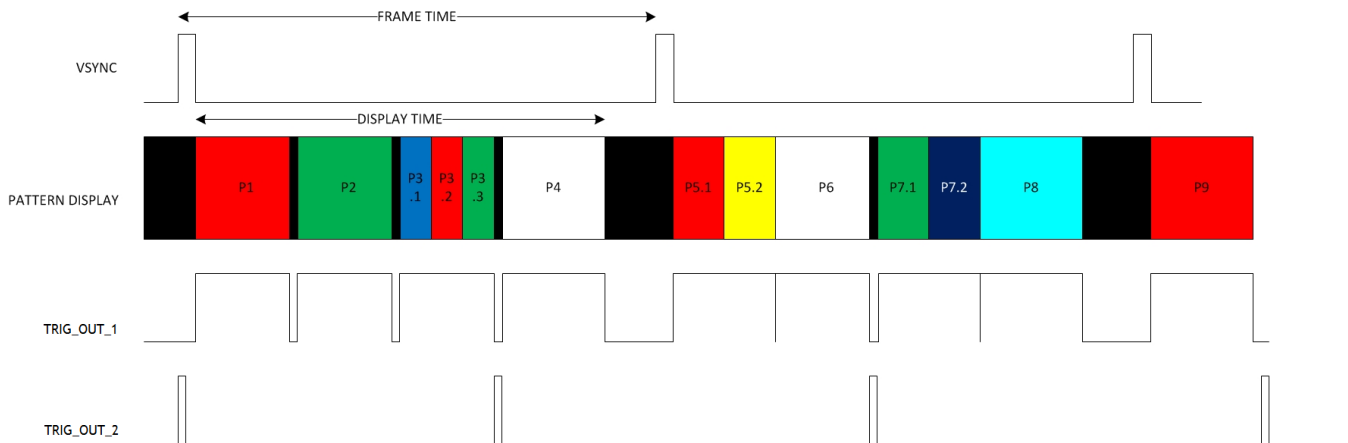
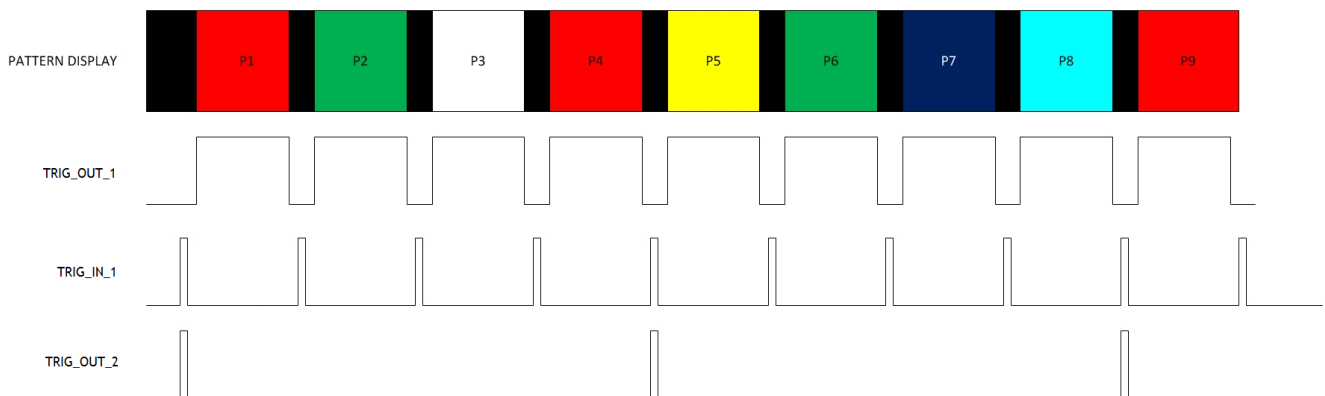

Figure 3-10. VSYNC Pattern Trigger Mode
Figure 3-11. External Pattern Trigger Mode
- examples of signals Figure 3-10 and Figure 3-11 show.
In pattern sequence mode, the 48 bit-planes can be preloaded from flash memory and then sequenced with a combination of patterns with different bit depths. To synchronize a camera to the displayed patterns, the DLPC350 supports two trigger inputs and two trigger outputs. TRIG_IN_1 pulse indicates to the DLPC350 to advance to the next pattern, while TRIG_IN_2 starts and stops the pattern sequence. TRIG_OUT_1 frames the exposure time of the pattern, while TRIG_OUT_2 indicates the start of the pattern sequence or internal buffer boundary of 24 bit-planes. For example, in Figure 3-10, the VSYNC starts the pattern sequence display. The pattern sequence consists of a series of three consecutive patterns. The first pattern sequence consists of P1, P2, and P3. P3 is an RGB pattern, it is shown with its time-sequential representation of P3.1, P3.2, and P3.3. The second pattern sequence consists of three patterns: P4, P5, and P6. The third sequence consists of P7, P8, and P9. TRIG_OUT_1 frames each pattern exposed, while TRIG_OUT_2 indicates the start of each of the three pattern sequences. In Figure 3-11, a pattern sequence of a group of four patterns are displayed. TRIG_OUT_1 frames each pattern exposed, while TRIG_OUT_2 indicates the start of each four-pattern sequence. TRIG_IN_1 pulses advance the pattern.